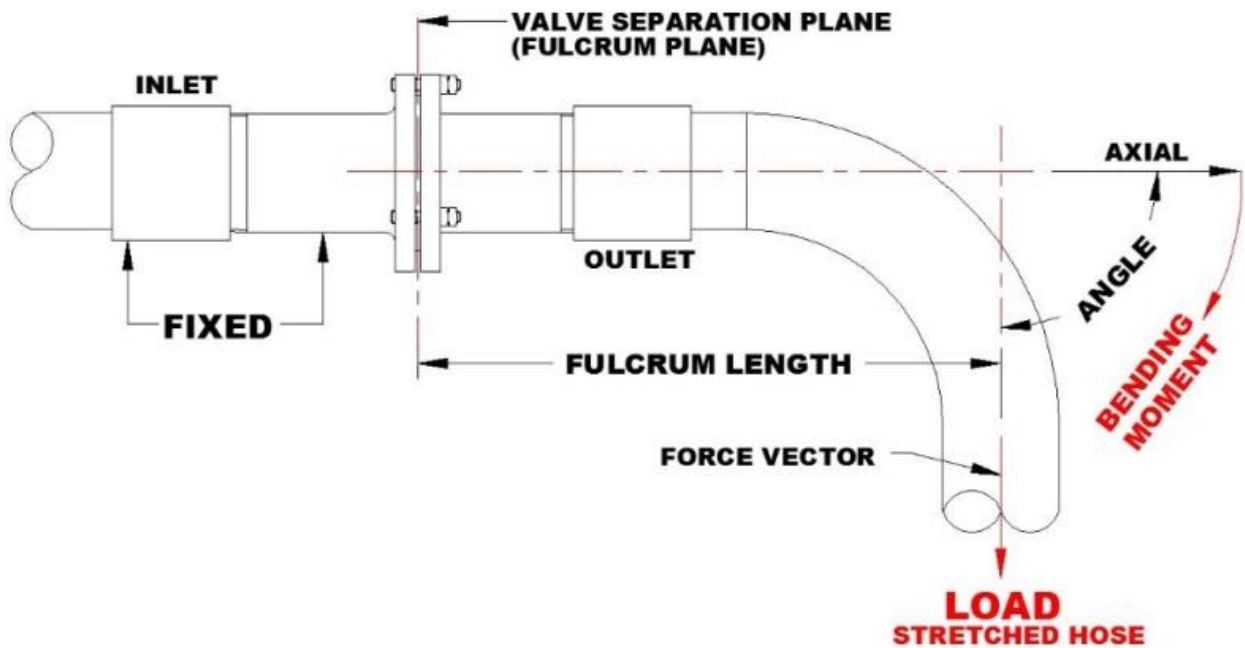
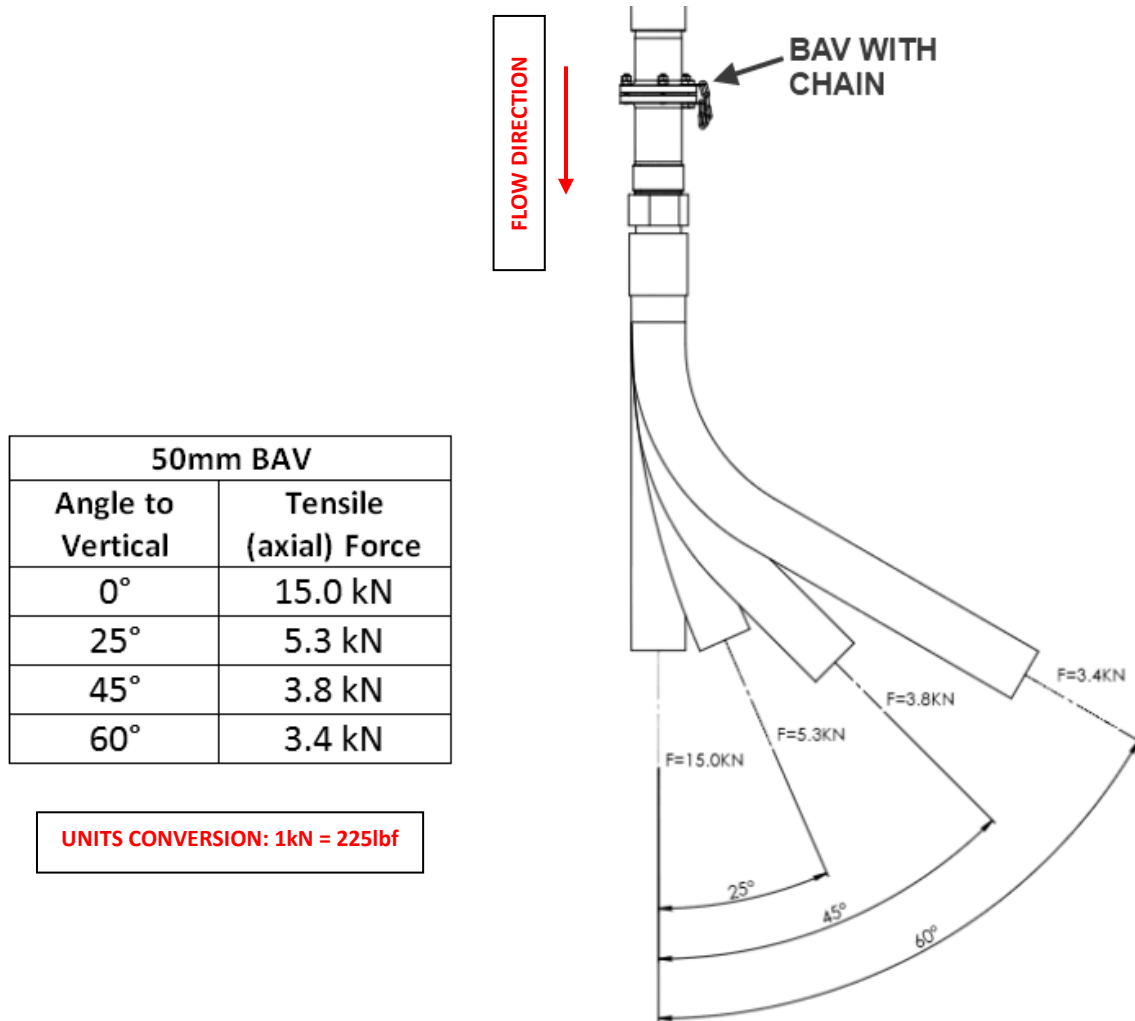

Figure 7 - Illustration of BAV subjected to Cantilevered Load (Bending Moment)
Figure 8 - BAV install onto a Loading Arm with "Break-Away" Forces (2", DN50 BAV)
A Banlaw Break-Away Valve (BAV) is designed to be installed within a configuration as per Figure 7, specifically within a **bending moment** (i.e. cantilevered) orientation to the attached dispensing hose during a drive-away. A Banlaw BAV is not designed to be oriented in an axial (direct pull) arrangement. As a guide, *peak* axial (direct tensile) loads exceeding 25kN (5,620lbs) have been measured during laboratory testing of BAV's by Banlaw depending on the speed at which the force is applied.
The following data details the bending moment required to cause separation (disconnection) of a BAV. Note the data varies according to the orientation of the studs, with the basic arrangement in Figure 7 illustrating a bending moment (i.e. cantilever action) applied to a BAV in a “12 o’clock” stud position (i.e. a stud is located opposite the direction of the applied load via the hose).
Figure 8 illustrates a 2" BAV and the approx. force required to cause valve separation with respect to the angle at which the force (load) is applied relative to the central axis (i.e. fulcrum plane) of the BAV. All data is based on a 2" BAV in "as new" condition, fitted with genuine Banlaw parts, and a fulcrum length (refer Figure 7) of approx. 340mm (13.4"). This data is for the fracture of the 3 of Studs only, with a *subsequent* force required to fracture a Chain Mount Plate (refer Table 2).
The data referenced in Table 3, Table 4 and Figure 8 is approximate (guide only), and will vary according to a number of factors (variables), including;
- The size (2" or 3") of the BAV (for Figure 8).
- Whether "standard" or "higher tensile" (HT) Banlaw studs are installed.
- The effective fulcrum length between the (applied) force vector and the lateral axis (fulcrum plane) of the BAV (refer Figure 7).